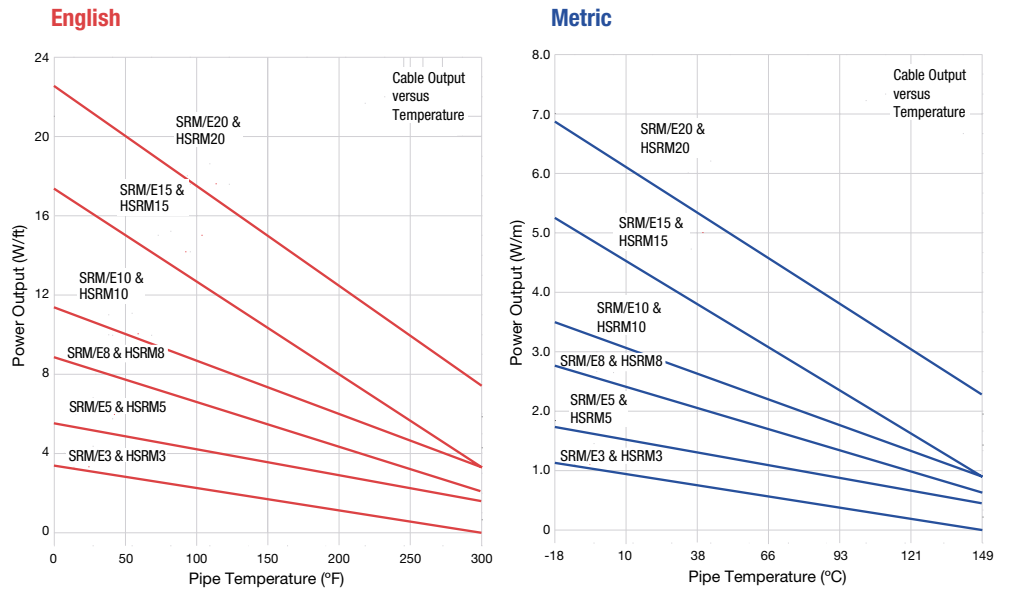

Figure 3
1. For Self-Regulating Cable – See Figures 1 and 2 (page 12) if piping is metallic and Figures 3 and 4 (page 13) if piping is plastic. Find your actual heat loss, Q, (as previously calculated on pages 1 or 7) on the Y-axis of the graph and the maintenance temperature required on the X-axis. Select the cable for which the thermal output is $\geq Q$ at T_m .